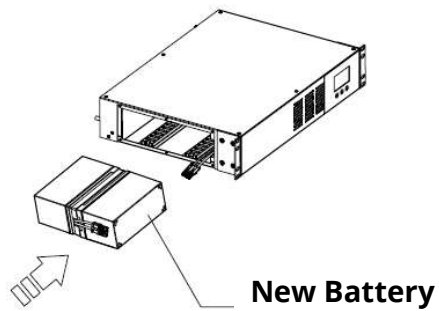

Figure 9
5. Insert the new battery module. (**FIG. 9**).